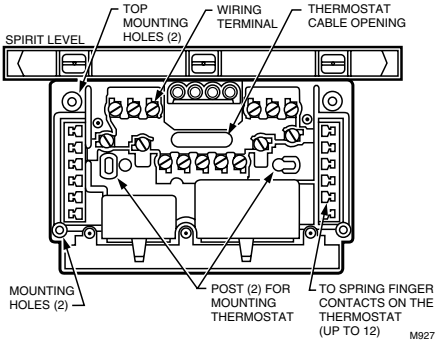

Fig. 3. Level the subbase.
5. The subbase mounting slots allow minor out-of-level adjustments. Level the subbase using a spirit level, as shown in Fig. 3, and tighten the subbase mounting screws.